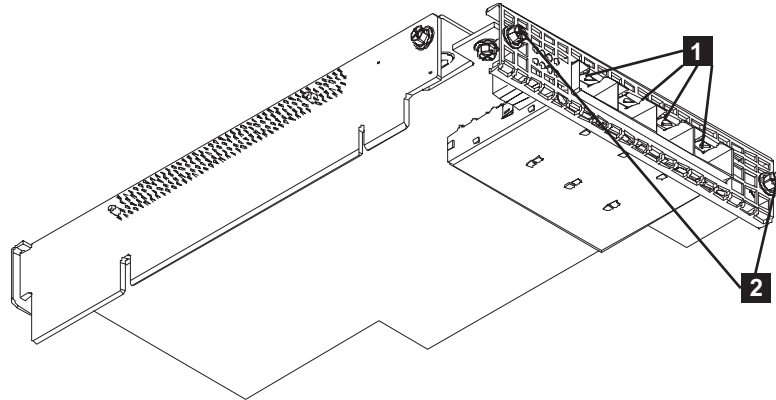

Figure 172. The SAN Volume Controller 2145-CF8 fibre-channel adapter
9. Remove the two M3 screws that attach the adapter assembly to the back rail. The fibre-channel adapter assembly and the high-speed SAS adapter assembly each attach to the back rail with two screws, as shown in the partial view of the rail with the fibre-channel adapter assembly attached in Figure 172.